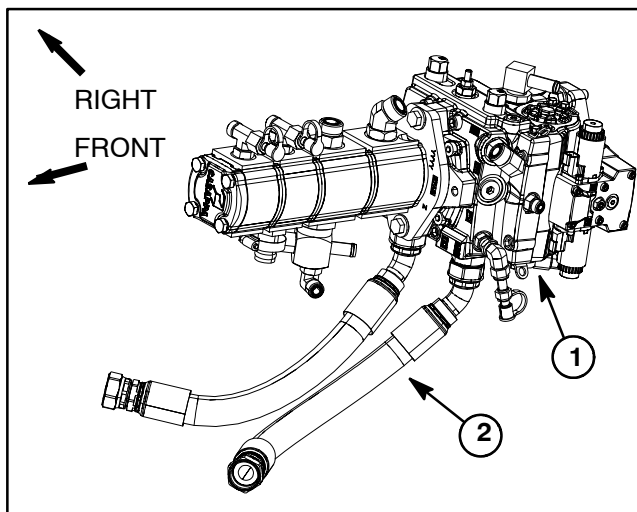

Figure 51
3. Thoroughly clean junction of hydraulic hose and **left** side fitting on bottom of piston (traction) pump (Fig. 51). Disconnect hose from left side pump fitting.